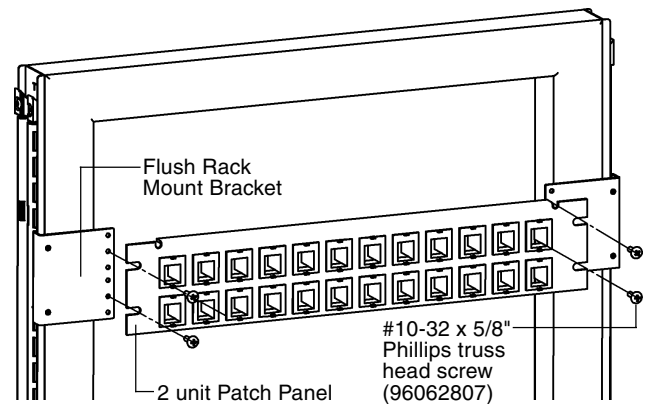

Figure 1
3. Install the Patch Panel using the #10-32 x 5/8" Phillips truss head screws provided (Figure 1).
1. At desired location in a Rack Module or on Rack Mount Brackets, install a 2 unit Patch Panel using #10-32 x 5/8" Phillips truss head screws. (Figure 1)